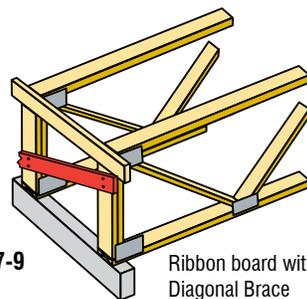

FIGURE B7-9
- ✓ For Bottom Chord Bearing Trusses, TCLR at Truss ends are not required if Blocking panels, Ribbon board or Rim board are used. See details in Figures B7-9, 10 and 11.